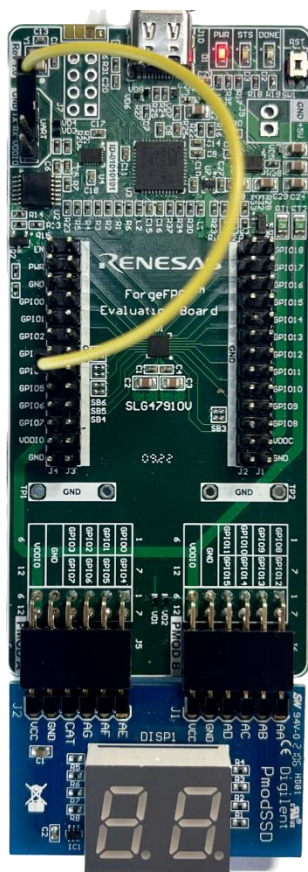

Figure 8: UART Connection on EVB
12. To send the data from the UART to the Pmod, we need to use the inbuilt UART Terminal. The EVB has a connection for the UART. The user needs to connect the TX within the UART on the board to GPIO4 for the UART Terminal to work. (See Figure 8)